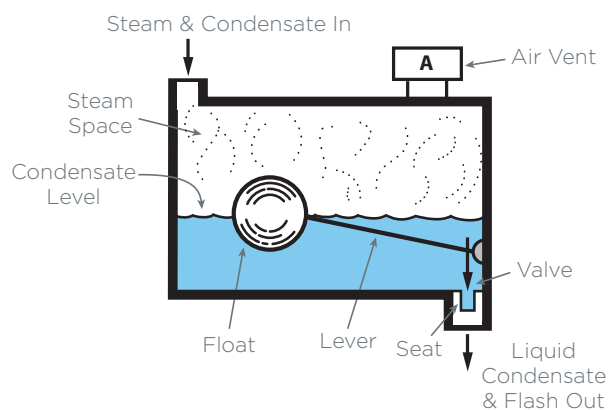

Figure 8. Float and Thermostatic Steam Trap
**Float and Thermostatic (F&T) traps.** Float and thermostatic (F&T) traps are similar to float and lever traps except they include a thermostatic element that allows air to be discharged at start-up and during operation. The thermostatic elements used in these traps are the same as those used in thermostatic traps. The configuration of a float and thermostatic steam trap is shown in Figure 8.